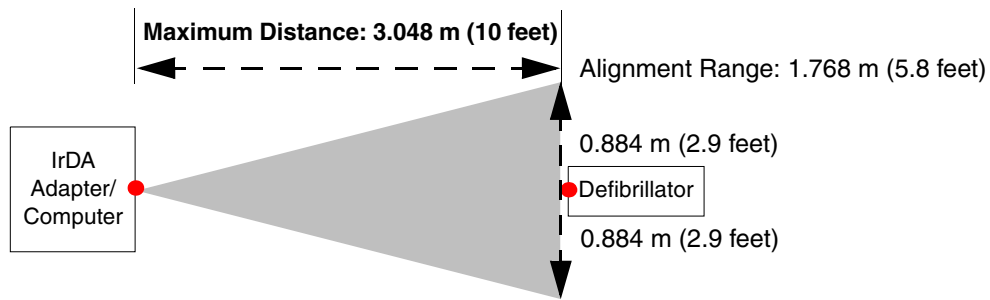

Figure 6-3 IrDA Connections
IrDA adapters are available for serial or USB computer ports. Follow the installation and usage instructions provided with the adapter, ensuring that the adapter mount (receiving end) is positioned on a stable surface. Figure 6-3 provides guidelines to follow for positioning the defibrillator and the IrDA adapter before initiating a transmission.
**Note:** The shaded cone in Figure 6-3 represents the approximate parameters for positioning the defibrillator's IrDA port opposite the IrDA adapter. As the distance between the two increases, so does the possible range for aligning them.